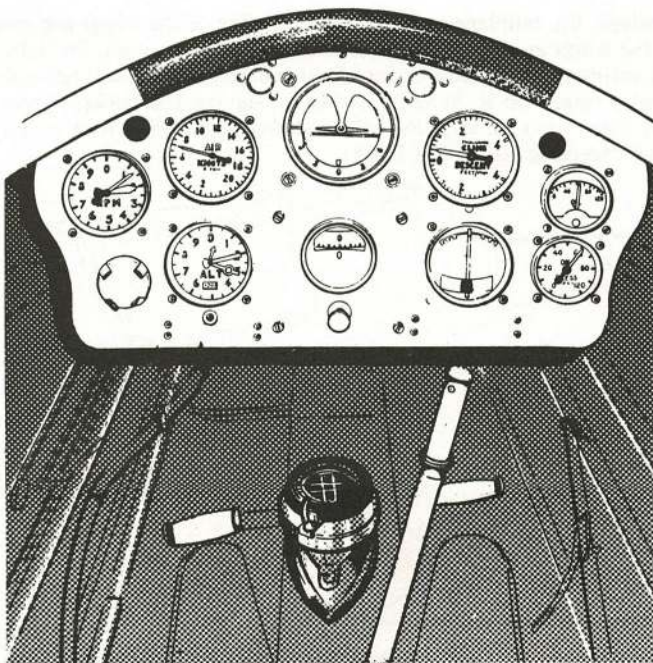

Fig 9 Chipmunk Rear Cockpit
9. **General Cockpit Layout.** The cockpit of the Chipmunk is very simple—certainly compared with that of a modern operational aircraft. The general layout is illustrated in Fig 9.